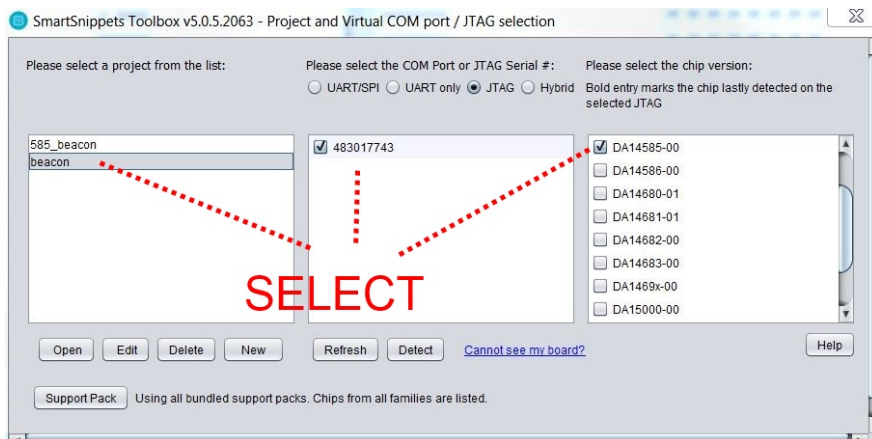

Figure 92: Initial Window to Choose Device and Connection Type
1. Open SmartSnippets Studio > SmartSnippets Toolbox (Figure 92). Select **JTAG** (above), JTAG adapter (middle panel), a project name (left panel), and chip version (DA14585, right panel). If **SmartSnippets** Toolbox is being run for the first time, first define a new project by the **New** button.